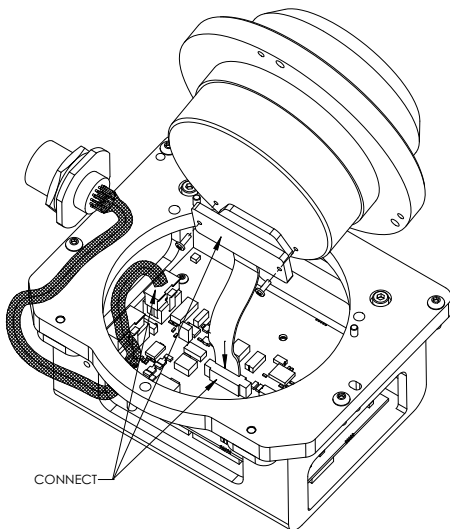

Figure 48: Connect IMU to IMU Mounting Plate
2. Check the connection of the internal cable harness to the board assembly and route as shown in *Figure 48*. Before you connect the IMU cable harness, make sure the connector on the board assembly is clicked open. Connect the IMU cable harness to the IMU (fasten the 2-56 screws but do not use thread-locking fluid), then connect to the board assembly. Ensure the cable housing latches.